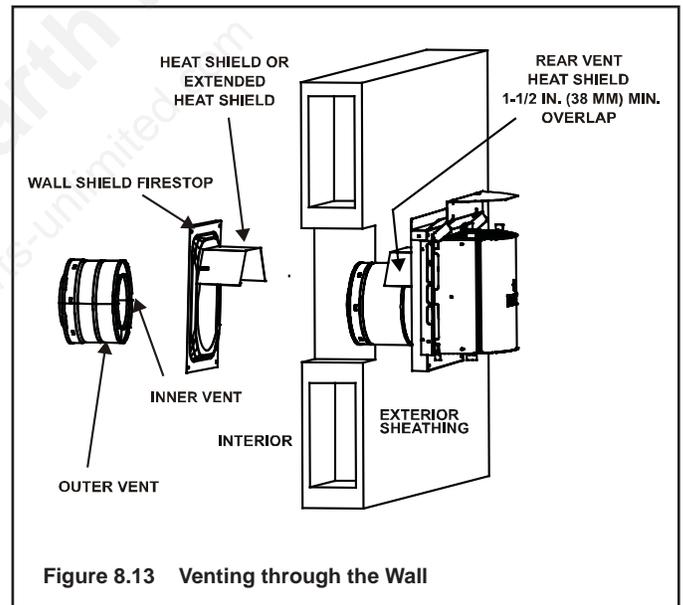

Figure 8.13 Venting through the Wall
- Lock the vent components into place by sliding the concentric pipe sections with four (4) equally spaced interior beads into the appliance collar or previously installed component end with four (4) equally spaced indented sections.
- When the internal beads of each outer pipe line up, rotate the pipe section clockwise about one-quarter (1/4) turn (see Figure 8.13). The vent pipe is now locked together.